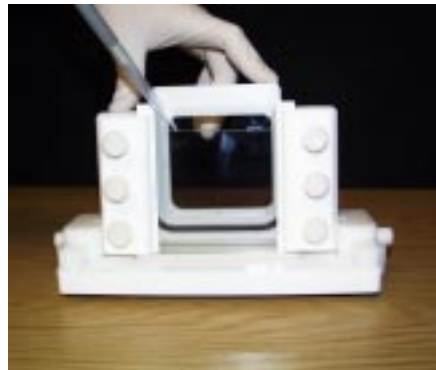

Fig 7
- Insert the comb ensuring bubbles are not trapped (see figure 7, page 11). Once the stacking gel has polymerised use the gel immediately or store wrapped in a damp paper towel and Clingfilm at 4 $^\circ$ C.